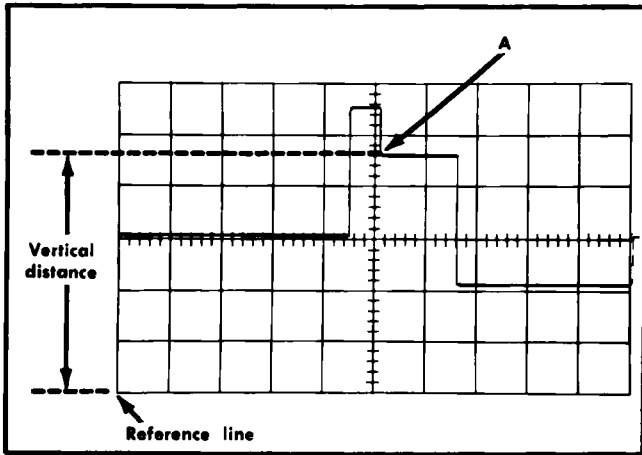

Fig. 2-20. Measuring Instantaneous DC voltage with respect to a reference voltage.
9. Measure the distance in divisions between the reference line and the point on the waveform at which the DC level is to be measured. For example, in Fig. 2-20 the measurement is made between the reference line and point A.
Example. Assume that the vertical distance measured is 4.6 divisions (see Fig. 2-20), the waveform is above the reference line, using a 10X attenuator probe and a VOLTS/DIV switch setting of 2.